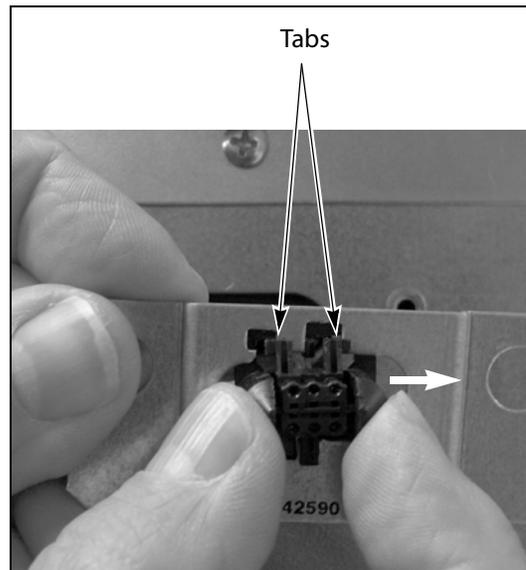

Figure 47 Insert the power button into the mounting bracket.
7. Orient the power button mounting bracket so that the raised center portion is away from the library and the notches in the opening are toward the top (see Figure 47).